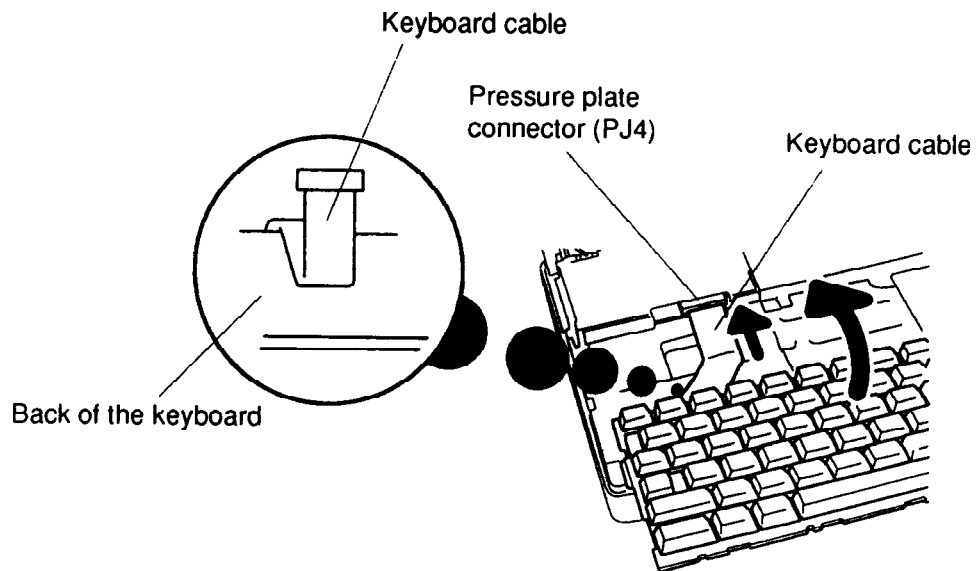

Figure 4-8 Seating the Keyboard
2. Seat the **keyboard** in the computer. Note that a fold is built into the **keyboard cable**. Do not try to bend the cable at any other point when you install the keyboard. (Figure 4-8).